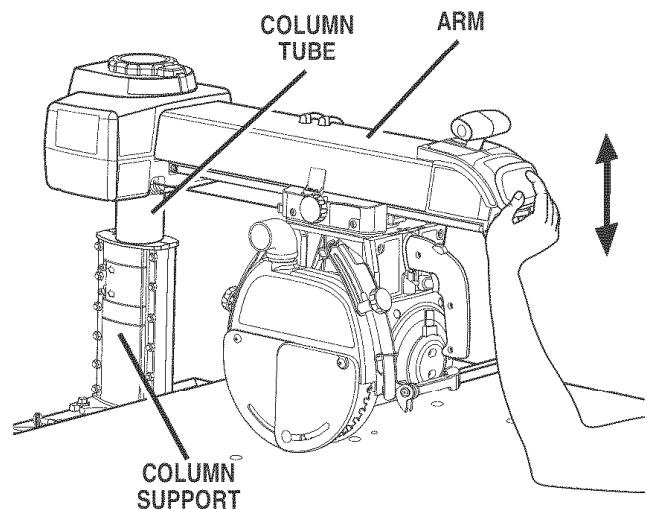

Fig. 20A
See figures 20A - 20D.
- *Elevation Check:* To check the elevation movement, place your hand under the front of the radial arm. Press upward on the radial arm. There should be minimal play between the column tube and the column support. The whole assembly should move as one. See Figure 20A.